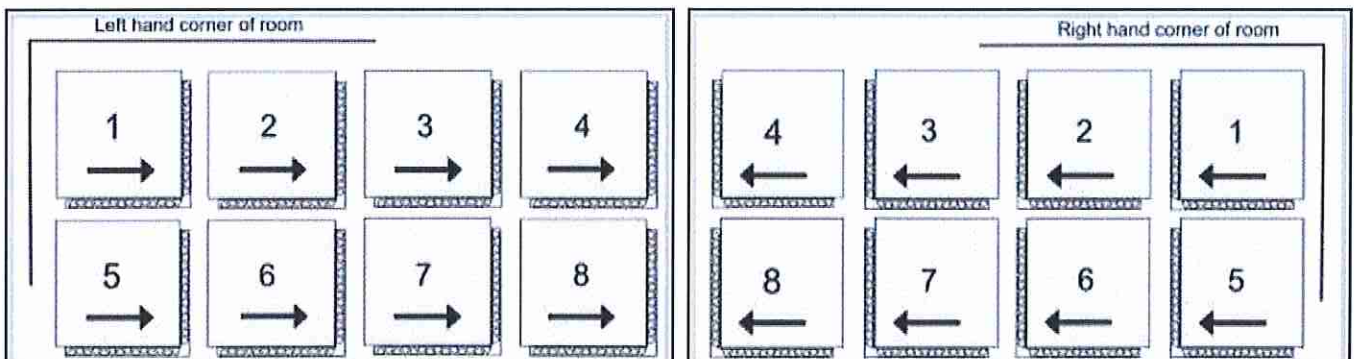

Figure 2 Tile Layout
- Snap a chalk line between these points, shown as line EG in Figure 2